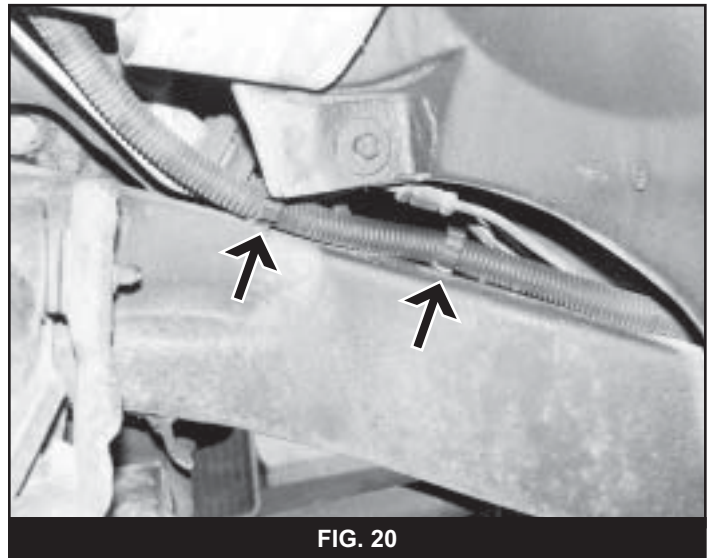

FIG. 20
30. Remove the wire harness from the plastic retaining clip on the driver's side frame rail (Fig 20).